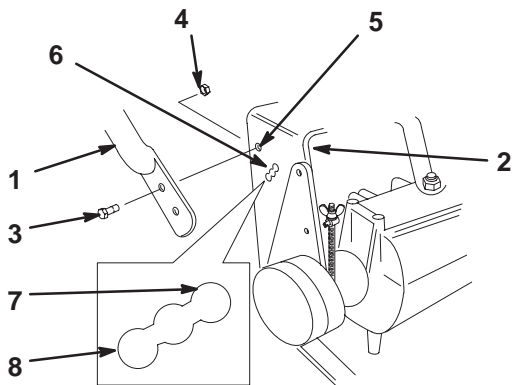

Figure 6
1. Align upper handle with upper mounting holes in rear frame (Fig. 6).
2. Secure each upper mounting hole with a flange bolt (3/8 x 1 in.) and flange nut (Fig. 6). Torque bolts to 25 ft.-lb. (34 N•m).
3. Select high, medium or low position for the lower mounting hole (Fig. 6). This allows the upper handle to be adjusted to the user's height preference.
4. Secure each lower mounting hole with a flange bolt (3/8 x 1 in.) and flange nut (Fig. 6). Torque bolts to 25 ft.-lb. (34 N•m).